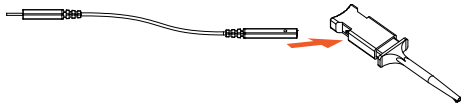

Figure 3
- ◆ Method three: on the basis of method two, you can connect a grabber to each lead and connect it to the device under test as shown in figure 3.